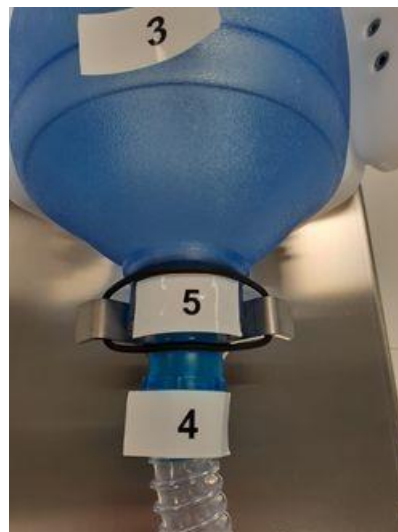

Figure 4.11: Attaching the AMBU balloon to the ABU ventilator.
- 4- Attach the ABU balloon (3) to the ABU ventilator (1) using the fixing elastic (5) as shown in Figure 4.11.